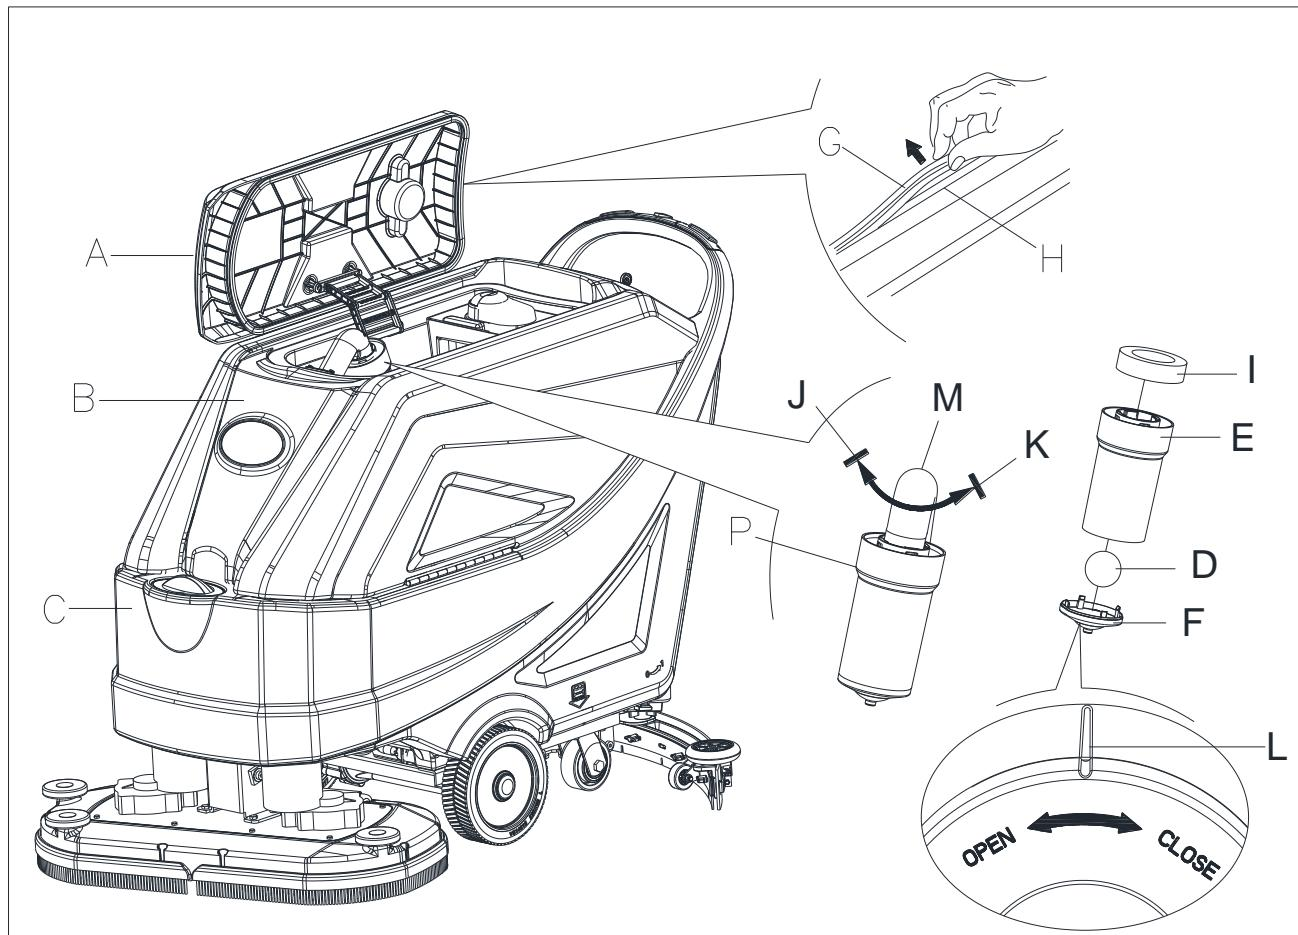

Figure 29
3. Open the recovery tank lid (A, Figure 29) to a 90degree position, and then remove the ball float filter (P) from the tank.
4. Clean the recovery tank lid (A), recovery tank (B), and the float ball filter support frame (E). Empty the recovery tank with the drain hose.
5. If necessary, follow the symbols “OPEN” and “CLOSE” as shown in (Figure 29)to open the bottom cover (F) of float ball filter and then clean the float ball (D), filter support frame (E) and filter sponge (I). After cleaning, fix the float ball (D) into the filter support frame (E) and then align the mark groove (L) of the bottom cap (F) of the float ball filter with the mark groove (L) of the float filter support frame (E). Screw the bottom cap of the float ball filter tight, and fix the filter sponge (I) onto the float filter support frame (E). Finally, connect it to the vacuum standpipe (M).
7. Check whether the contact surface of sealing strip (G) is good condition and sealing is sufficient. If necessary, take the sealing strip of the tank out of the groove (H) and replace it. Assembly the new sealing strip as shown in (Figure 29), the joint should be back in the middle area.
8. Close the recovery tank lid (A).